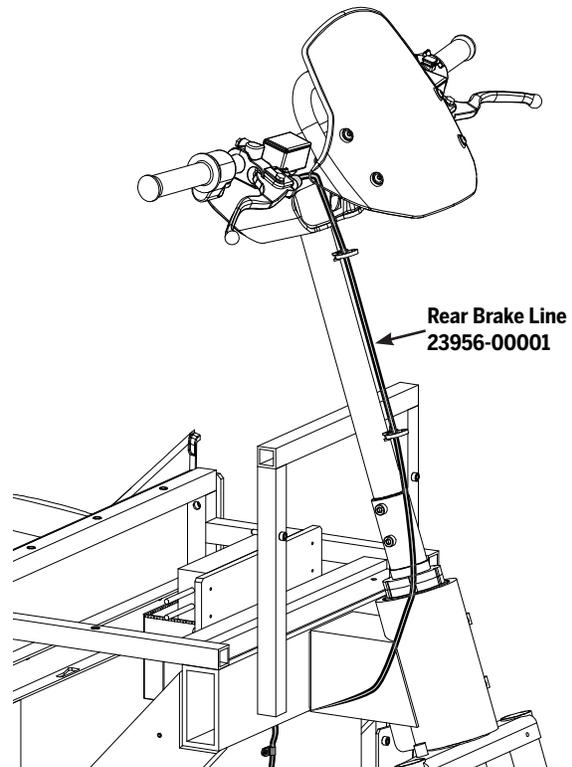

Figure 103: Rear Brake Line
3. Route the brake line down the steering column and around the right side of the front fork. See **Figure 103**.